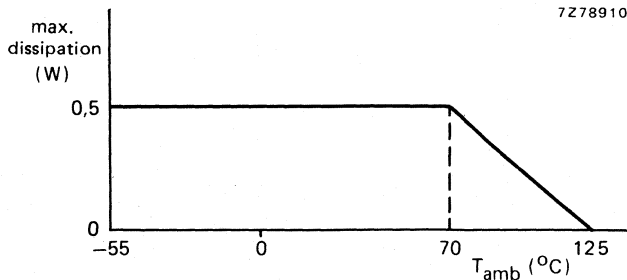

Fig. 5 Maximum dissipation as a function of ambient temperature.
- Maximum dissipation (P_{max}) at 70 °C 0,5 W, see Fig. 5